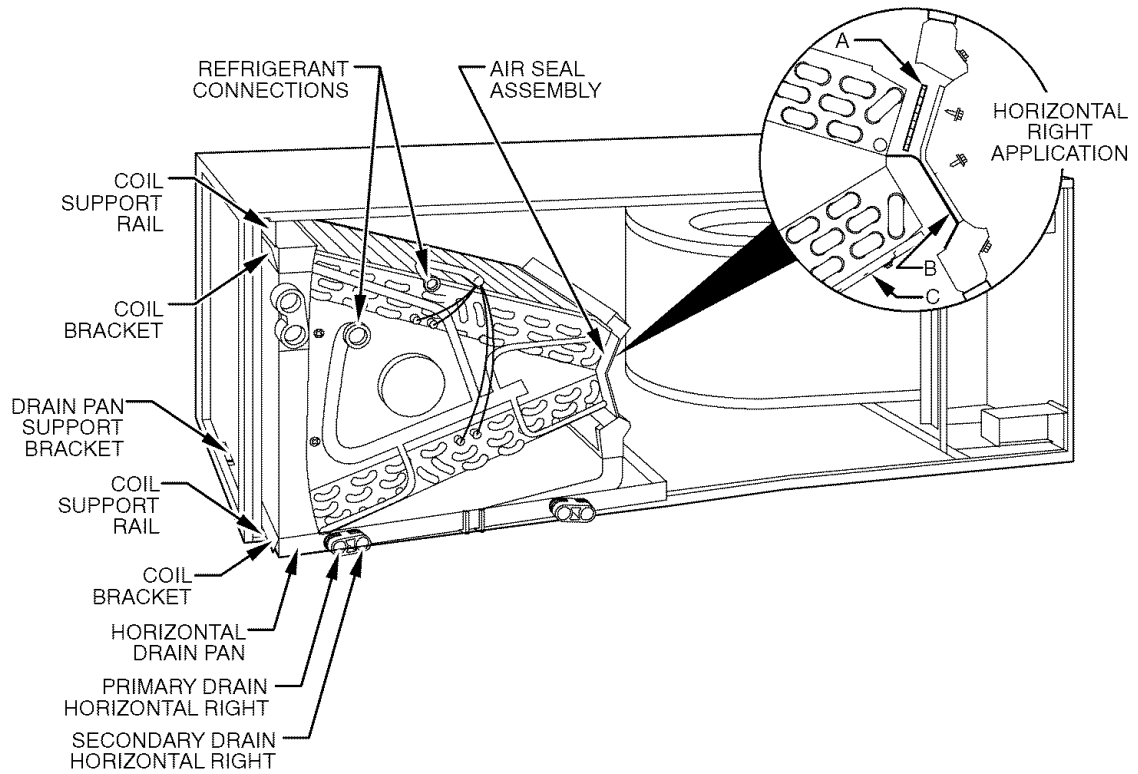

Fig. 6 - Conversion for Horizontal Right Applications Using A-Coil
1. Remove blower and coil access panels. (See Fig. 6.)
- a. Remove air seal assembly from coil by removing 4 screws. (See Fig. 6.)